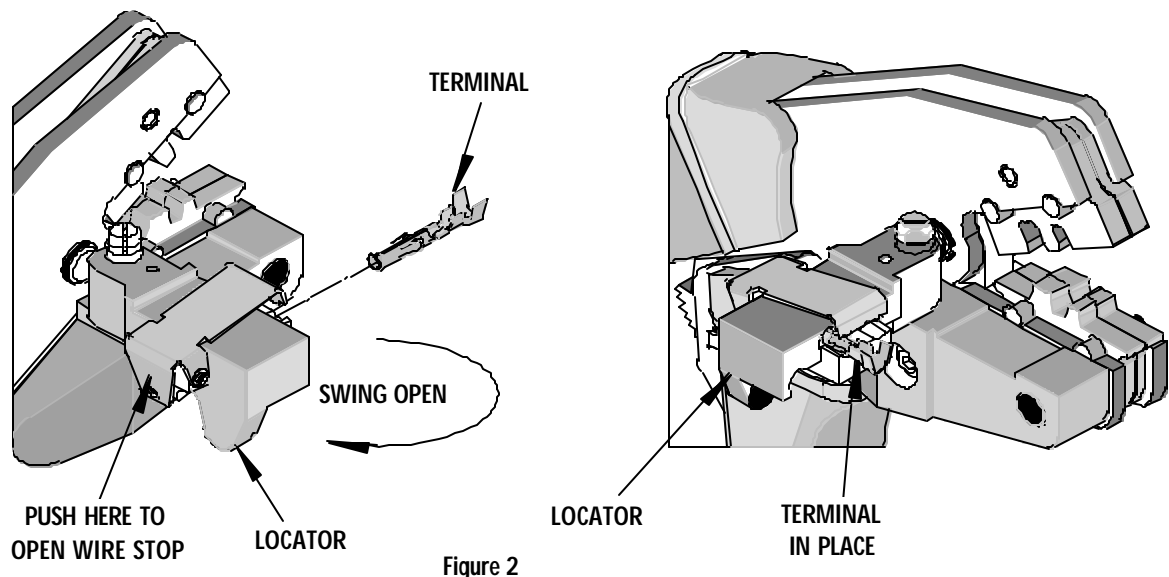

Figure 2
2. Swing the terminal locator away from the crimp tool shown in Figure 2.
3. When using 63811-3375 (Locator No. 1), press down on the wire stop on the locator as shown in Figure 2. Insert the proper terminal into the proper nest opening. Make sure when choosing the nest opening, it will correspond with the A or B profile on the hand tool. Partially close the tool until the terminal is held in place.